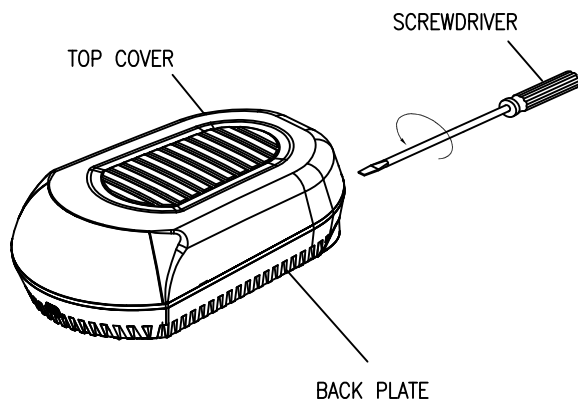

Fig.1
1. Remove top cover from back plate with screwdriver (see Fig.1).